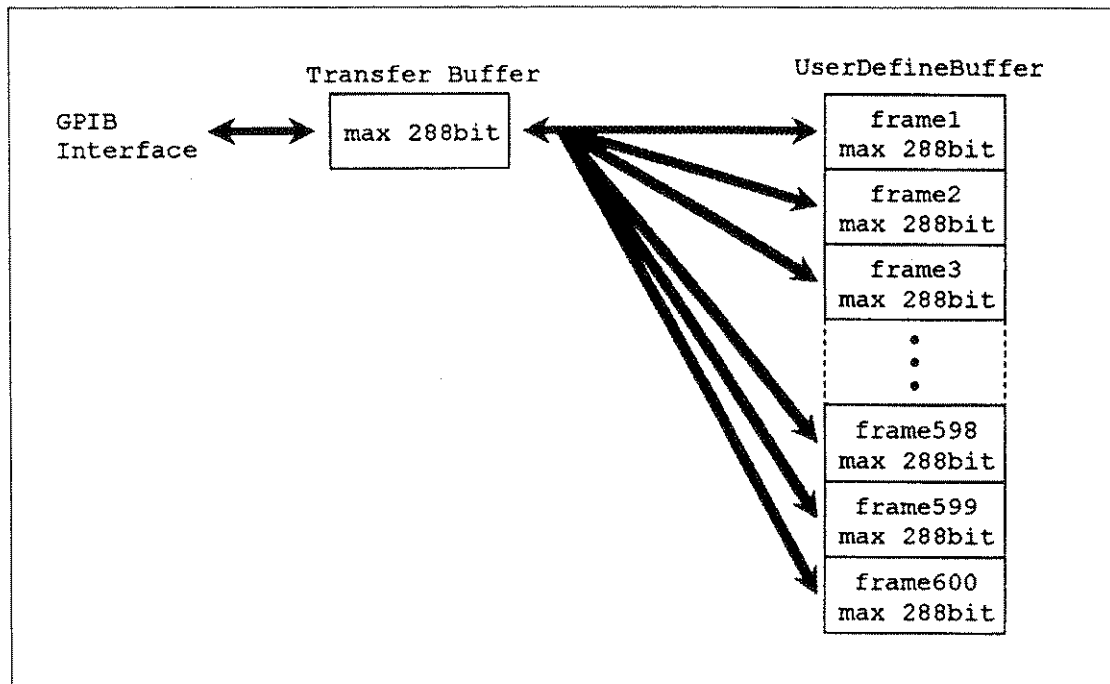

Figure 3-8 Relationship Between Transfer Buffer and User Defined Buffer
(1) About the User Defined Buffer
The User Defined Buffer is used to write Data Source information bits (data patterns). This buffer can contain a maximum of 600 frames. Information bits can be written in units of one (1) frame via the Transfer Buffer (see Figure 3-8).